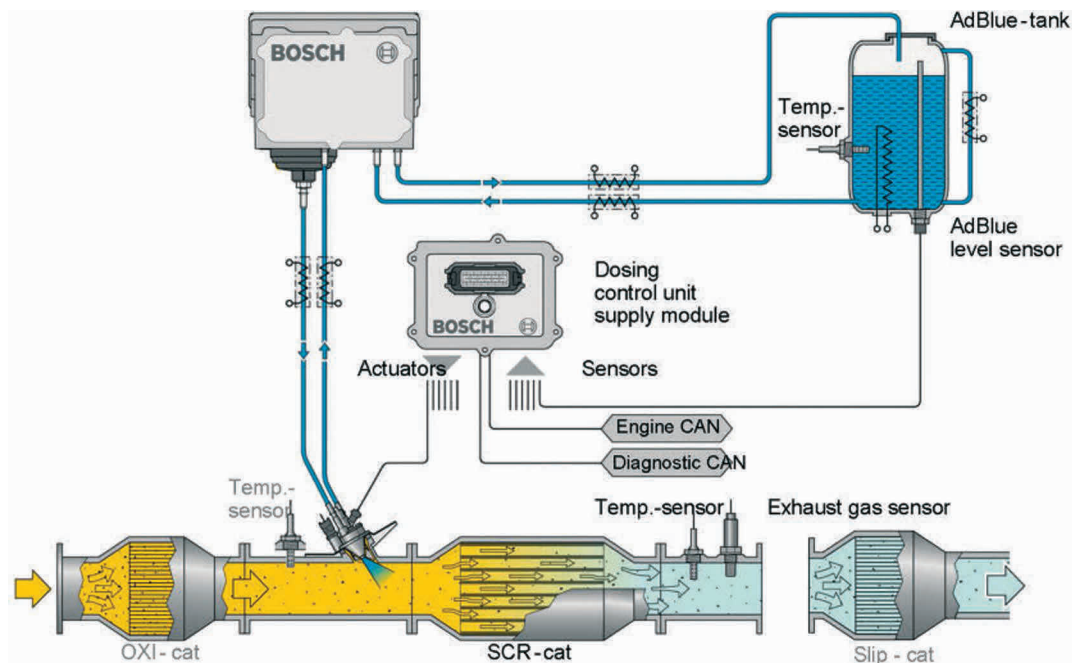

Figure 6.44 NOx reduction Bosch Denoxtronic 2.2.
Selective catalytic reduction (SCR) is a method of converting nitrogen oxides (NOx) with the aid of a catalyst into nitrogen (N) and water (H2O). A gaseous reductant, typically anhydrous ammonia, aqueous ammonia or urea, is added to a stream of exhaust gas and then into a catalyst (Figure 6.44). Carbon dioxide, CO2, is a reaction product when urea is used as the reductant. A typical SCR fluid is known as AdBlue.